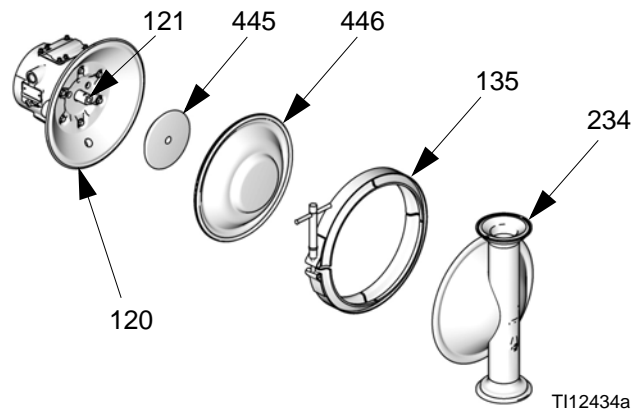

FIG. 21
3. Remove the clamps (135) holding the fluid covers (234) to the air covers (120). Pull the fluid covers (234) off the pump. See FIG. 21.
5. Diaphragms are assembled handtight. To loosen, grip both diaphragms securely around the outer edge and rotate counterclockwise. One diaphragm assembly will come free and the other will remain attached to the shaft. Remove the freed diaphragm (446) and air side plate (445).
6. Pull the opposite diaphragm assembly and shaft (121) out of the center housing (101). Hold the shaft flats with a 19 mm open end wrench and remove the diaphragm and air side plate from the shaft.
7. Inspect the diaphragm shaft (121) for wear or scratches. If it is damaged, inspect the bearings (117) in place. If the bearings are damaged, refer to page 28.
8. Reach into the center housing (101) with an o-ring pick and hook the u-cup packings (110), then pull them out of the housing. This can be done with the bearings (117) in place.